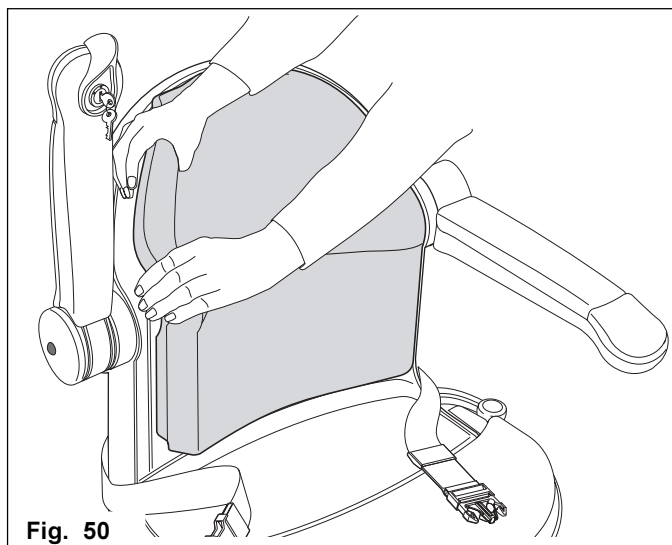

Fig. 50
- 1 Remove the backrest and seat cushion upholstery (Fig. 50) by carefully separating the Velcro pads.
10 Refit the sockets on to their respective plugs on the control PCB (refer to Fig. 50), and ensure the infra red sensors are correctly positioned.
11 Refit the seat backrest and cushion upholstery ensuring that the Velcro pads are attached, and refit the armrest pads by reversing the procedure outlined in point 1 (Fig. 50).